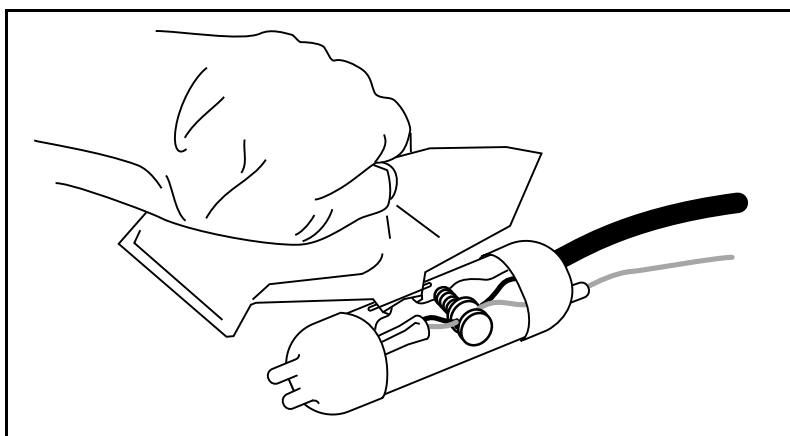

Figure 15. Pouring Sealing Compound Into Sleeve
7. Once the mixture feels warm, immediately cut one corner and slowly fill the surge protector's plastic sleeve. Stop just short of filling the entire sleeve. **Do not overfill.** [Figure 15]